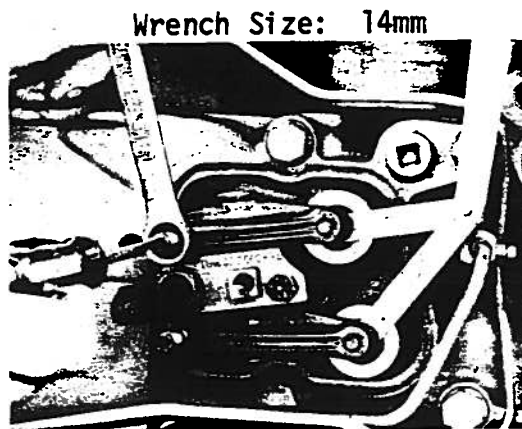

Figure 4-9. Setting Valve Clearances
- f. Adjust valve clearances by loosening locknut and adjusting setscrew. Tighten locknut to 18 lbs-ft. See figure 4-9.